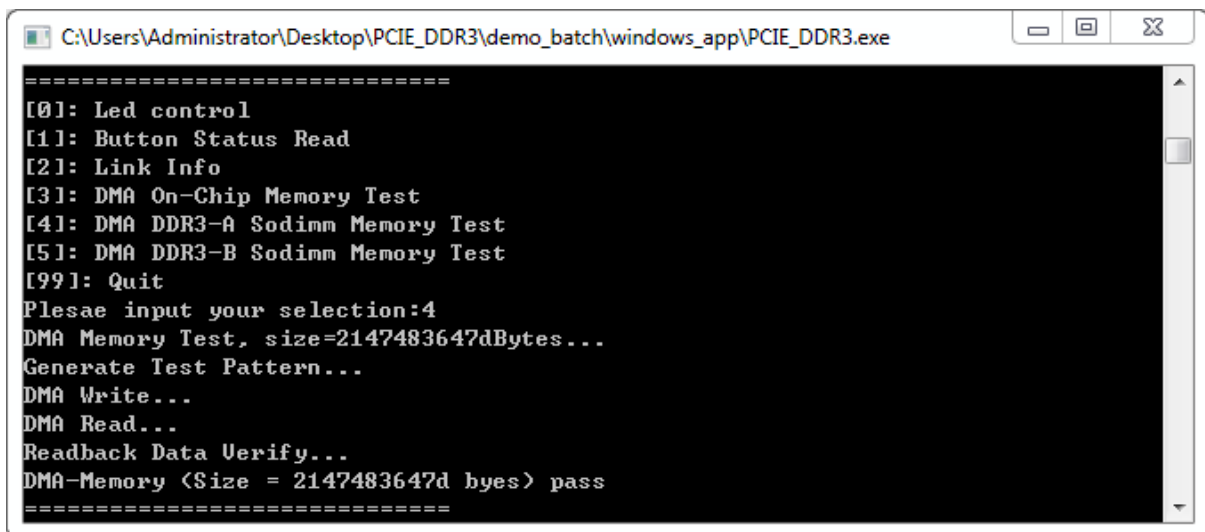

Figure 7-19 Screenshot of DDR3-A SODIMM Memory DAM Test Result
- Type-4 followed by the ENTER key to select DMA DDR3-A SODIMM Memory Test item. The DMA write and read test result will be report as shown in **Figure 7-19**.